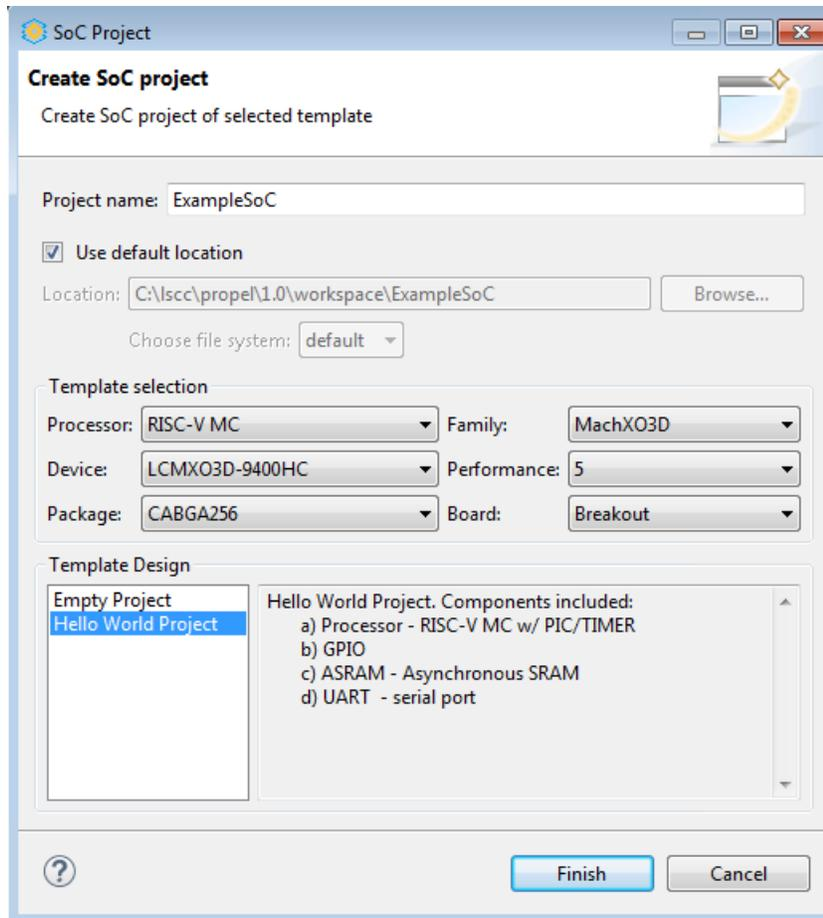

Figure 3.3. Create SoC Project Wizard
1. Choose **File > New >  Lattice SoC Design Project**. The Create SoC project wizard opens (Figure 3.3).